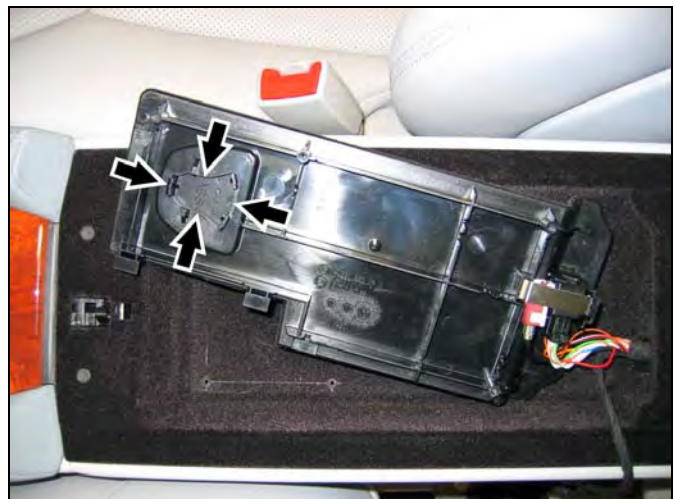

Figure 23
4. Lift out, turn over the false floor, and remove the knockout (Figure 23) by pressing it out from the underside.